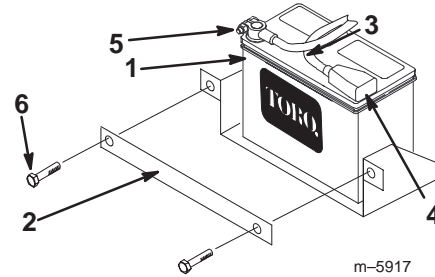

Figure 1
2. Remove the bolts, nuts, and clamp securing the battery (Fig. 1).
9. Secure the battery in chassis with the clamp, bolts, and nuts removed previously (Fig. 1).
10. Using the bolt and nut supplied with the battery, connect the positive (red) cable to the positive (+) battery post (Fig. 1). Slide the rubber cover over the battery post.
11. Using the bolt and nut supplied with the battery, connect the negative (black) cable to the negative (-) battery post (Fig. 1).